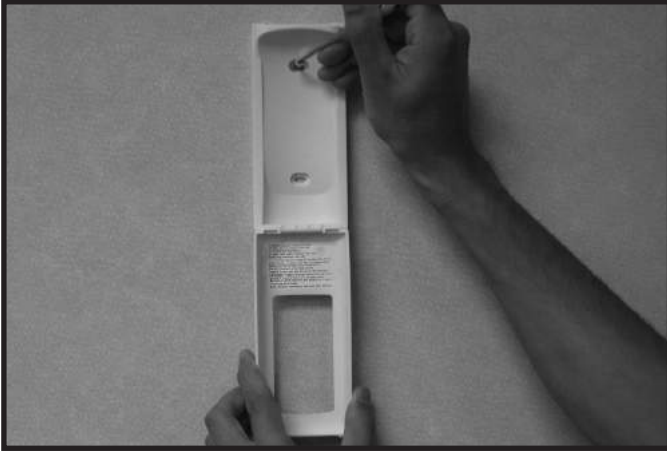

Figure 3.8 Mounting Remote Control Housing
3. Secure the remote control housing on a flat wall surface using the two screws and wall anchors provided. See Figure 3.8.